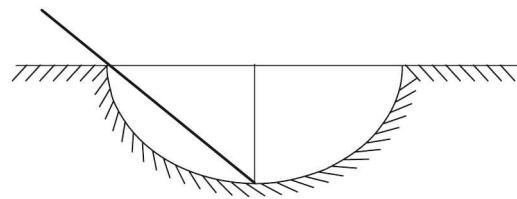

FIGURE 13.12 Sliding of a straight bar in a semi-cylindrical trough.
- (e) Sliding of a straight bar in a semi-cylindrical trough (see Figure 13.12).